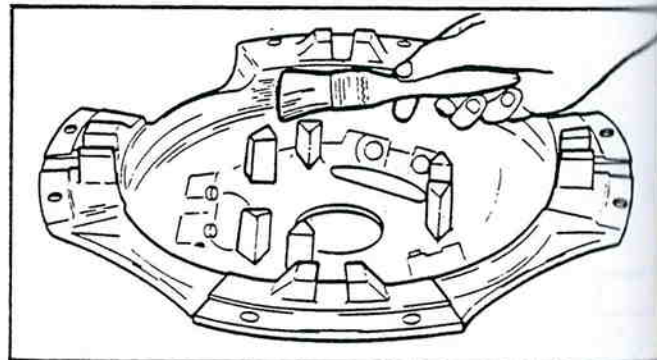

Figure 5-14. Coat Threads.
1. Place flywheel ring upside down on a table or workbench. Use a small paint brush and coat threads of adjusting ring and internal threads of flywheel ring with Darina EP-1 (figure 5-14).